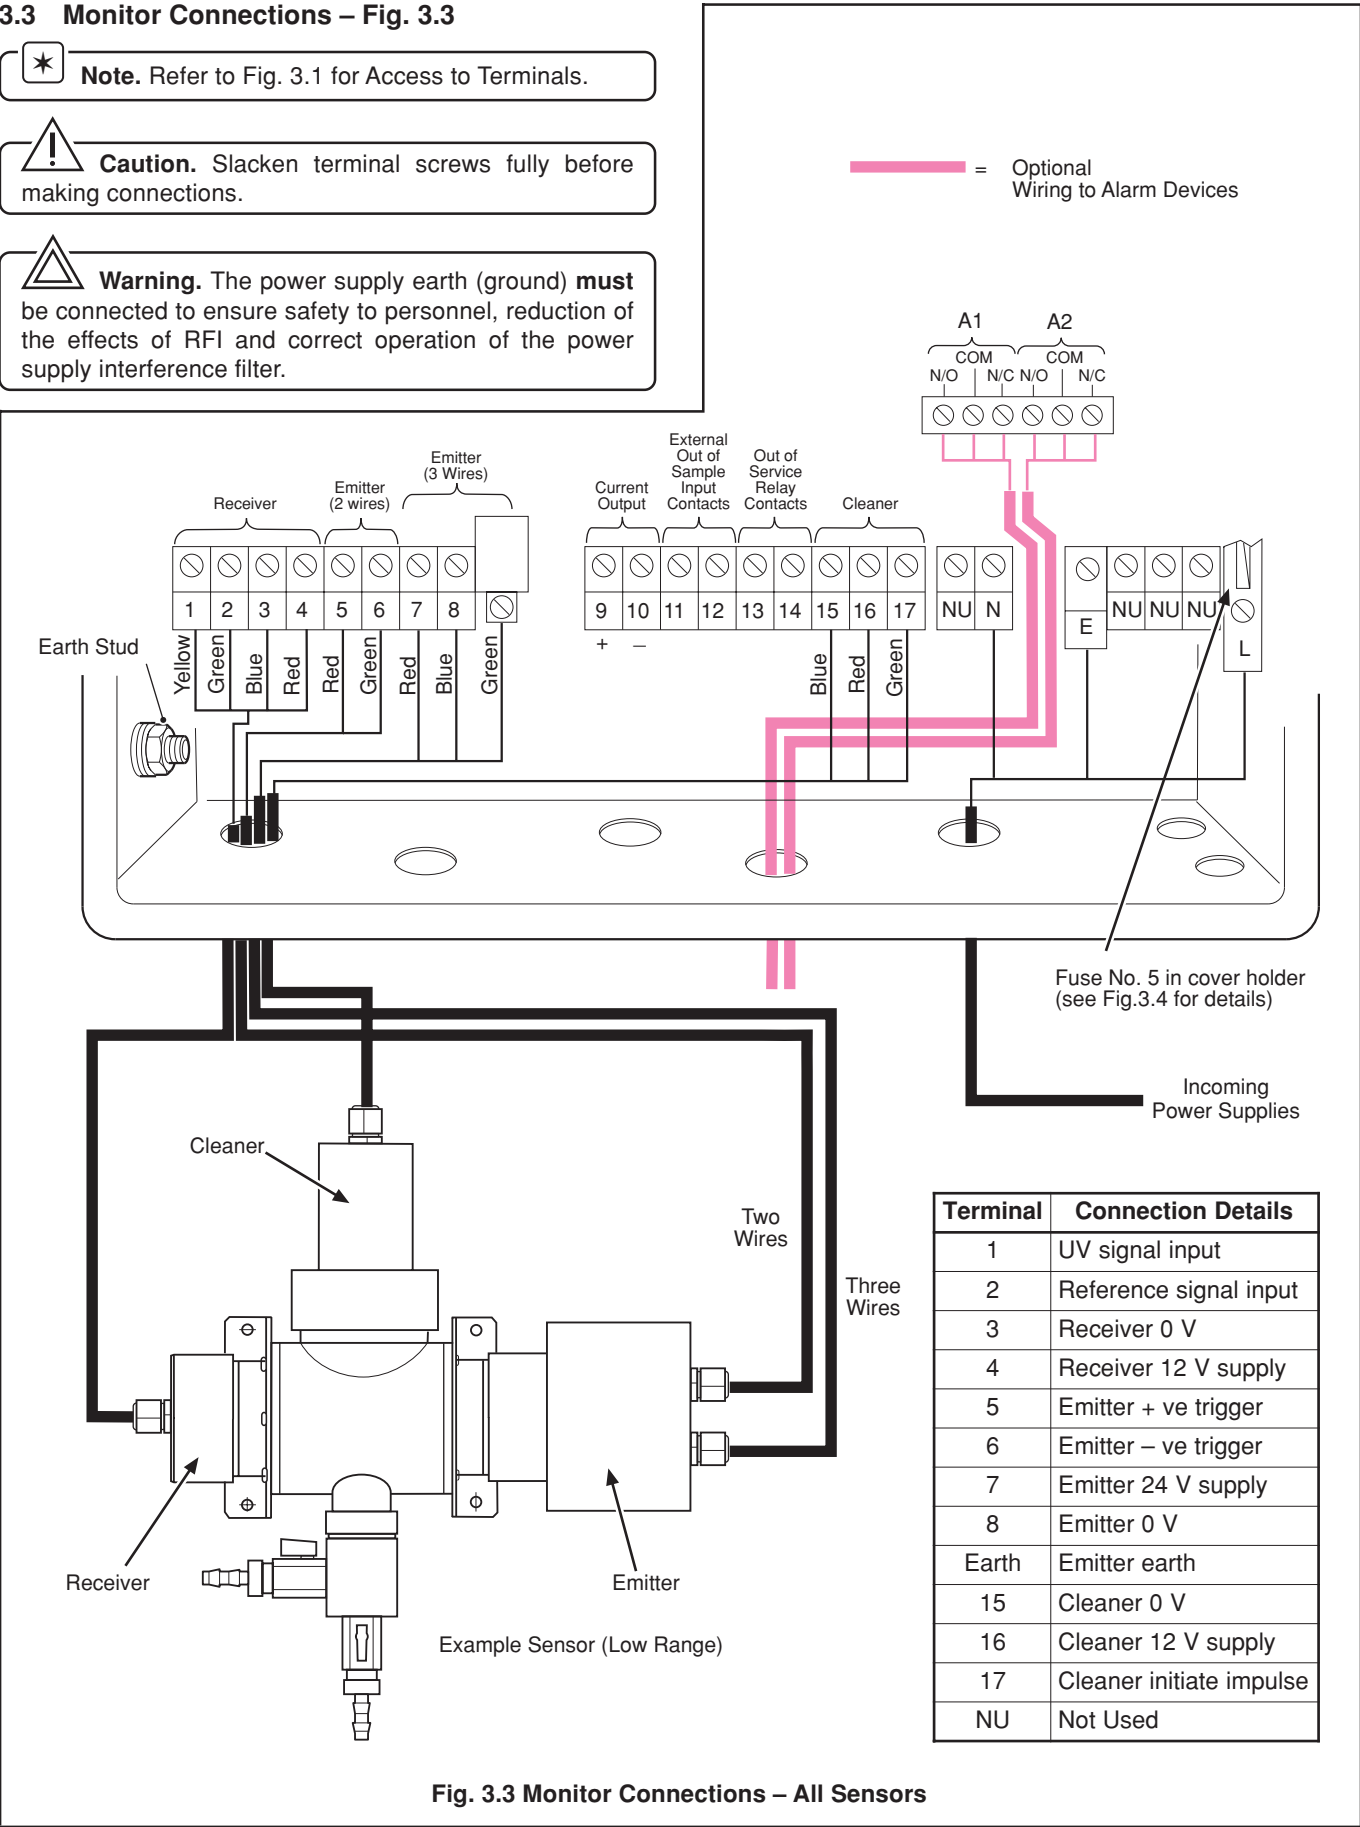

Fig. 3.3 Monitor Connections – All Sensors
- **Earthing (grounding)** – stud terminal(s) is fitted to the transmitter case for bus-bar earth (ground) connection – see Fig. 3.3.
3.3 Monitor Connections – Fig. 3.3
Up to two alarm relays can be provided with connections to the single set of contacts for each alarm – see **Fig. 3.3**. Alarms can be connected using suitable signal cable.